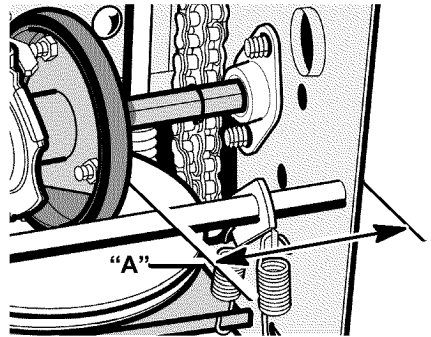

Figure 29
7. Note the position of the **friction wheel** (see Figure 29). The correct distance "**A**" from the right side of the **friction wheel** to the outside of the motorbox is as follows:
3. Move the **friction wheel** to the correct position (see Figure 29).